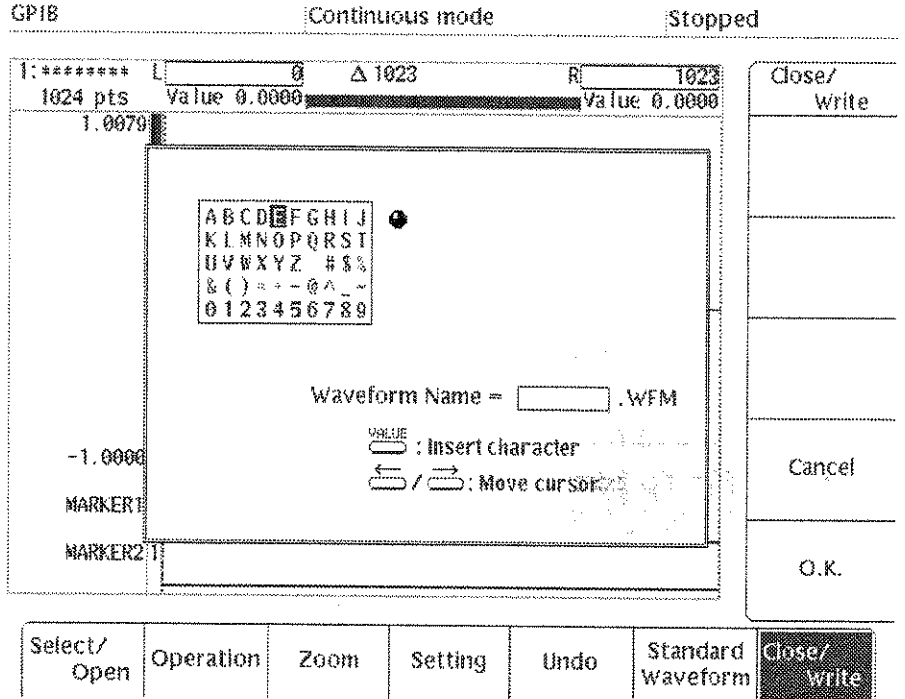

Figure 4A-13: Menu for Inputting a File Name
- Step 2:** Select **Write and Close** from the side menu. Figure 4A-13 shows the menu for inputting a file name.